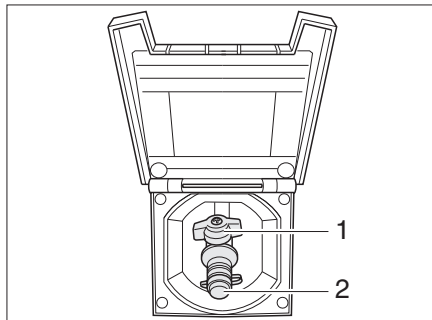

Fig. 84 External gas connection, gas isolator tap closed
The external gas connection (Fig. 84) is located at the rear or to the left or right of the vehicle depending on the model.
- Connect the external gas device to the connection point (Fig. 84,2).
- Open the gas isolator tap (Fig. 84,1).